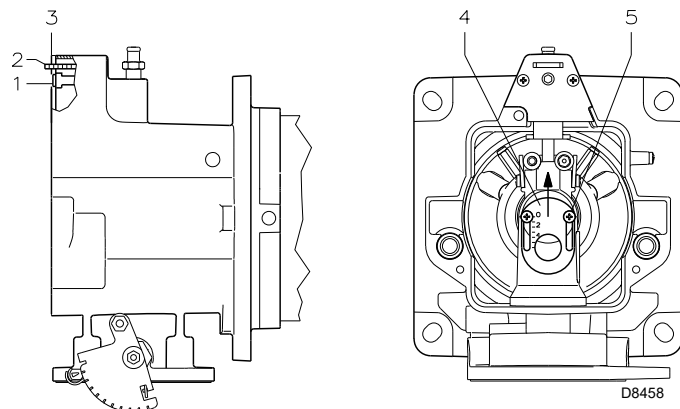
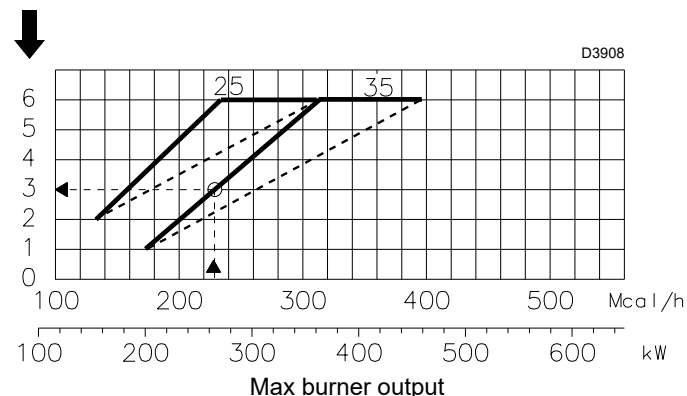
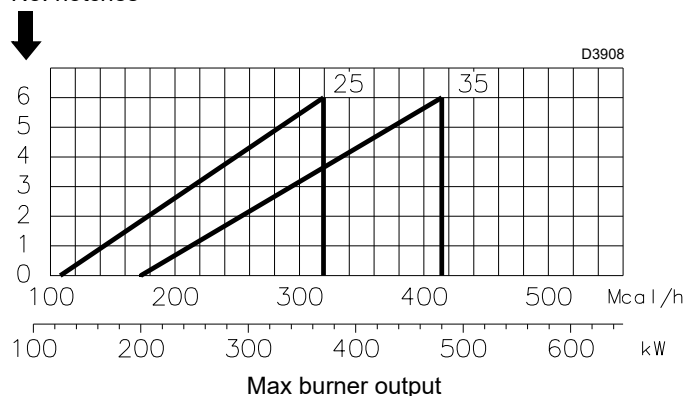

Fig. 14
Fig. 15
Fig. 16
Installation operations are now at the stage where the blast tube and sleeve are secured to the boiler as shown in Fig. 14.
Air adjustment (Fig. 14 - Fig. 15)
From diagram (Fig. 15) you can see that, for the MAX output of 270 kW, the air should be adjusted at notch 3, subtracted from the value of the pressure in the chamber.
If the pressure in the chamber is equal to 0 mbar, the air is adjusted with reference to the broken line of the diagram Fig. 15.
- In case the application needs a particular setup, it is possible to modify the central air delivery using the ring nut 4)(Fig. 14) up to the notch indicated in diagram (Fig. 16).
- In order to carry out this operation, unscrew the screws 5)(Fig. 14) and lift up the ring nut 4)(Fig. 14).
- At the end, tighten the screws 5)(Fig. 14) again.